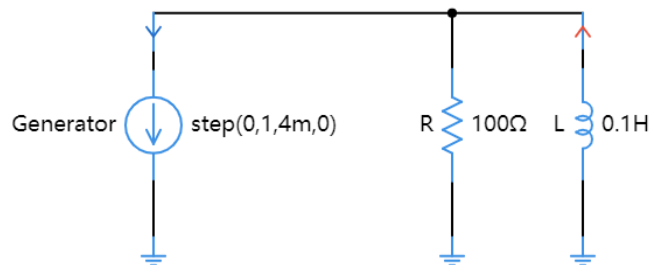

Fig. 11 Circuit configuration for the first-order RL simulation with current source.
6. Change the DC voltage generator to the DC **current generator** as shown in Fig. 11. two “Current Probes” are connected in the circuit to measure the currents. Repeat steps similar to Steps 1-5 above and fill in Table IV with the calculated and simulated data.